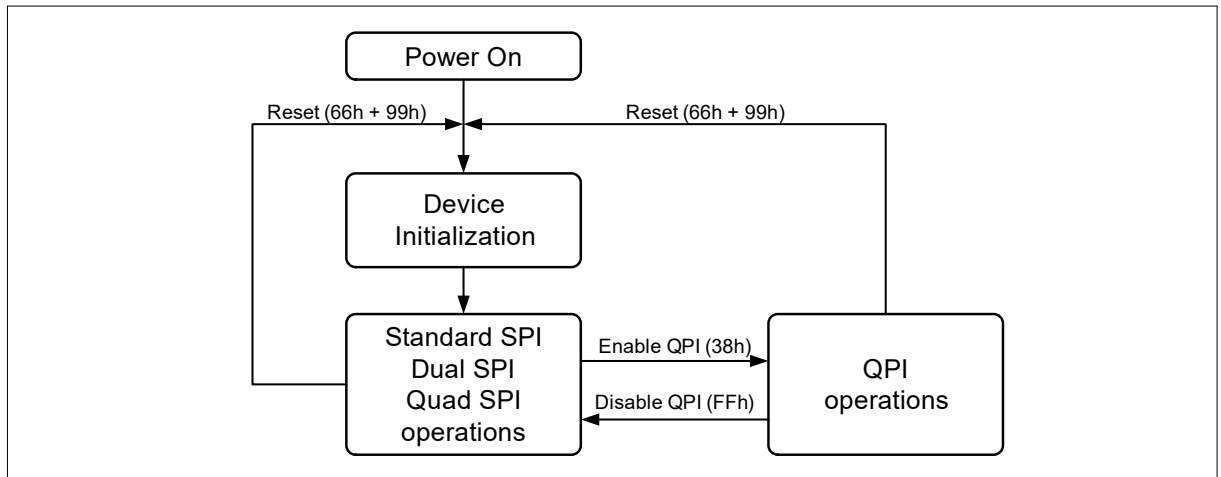

Figure 2 FM25Q16B Serial Flash Memory Operation Diagram
The FM25Q16B supports Quad Peripheral Interface (QPI) operations only when the device is switched from Standard/Dual/Quad SPI mode to QPI mode using the “Enable QPI (38h)” instruction. The typical SPI protocol requires that the byte-long instruction code being shifted into the device only via DI pin in eight serial clocks. The QPI mode utilizes all four DQ pins to input the instruction code, thus only two serial clocks are required. This can significantly reduce the SPI instruction overhead and improve system performance in an XIP environment. Standard/Dual/Quad SPI mode and QPI mode are exclusive. Only one mode can be active at any given time. “Enable QPI (38h)” and “Disable QPI (FFh)” instructions are used to switch between these two modes. Upon power-up or after a software reset using “Reset (99h)” instruction, the default state of the device is Standard/Dual/Quad SPI mode. To enable QPI mode, the non-volatile Quad Enable bit (QE) in Status Register-2 is required to be set. When using QPI instructions, the DI and DO pins become bidirectional  $DQ_0$  and  $DQ_1$ , and the WP# and HOLD# pins become  $DQ_2$  and  $DQ_3$  respectively. See Figure 2 for the device operation modes.